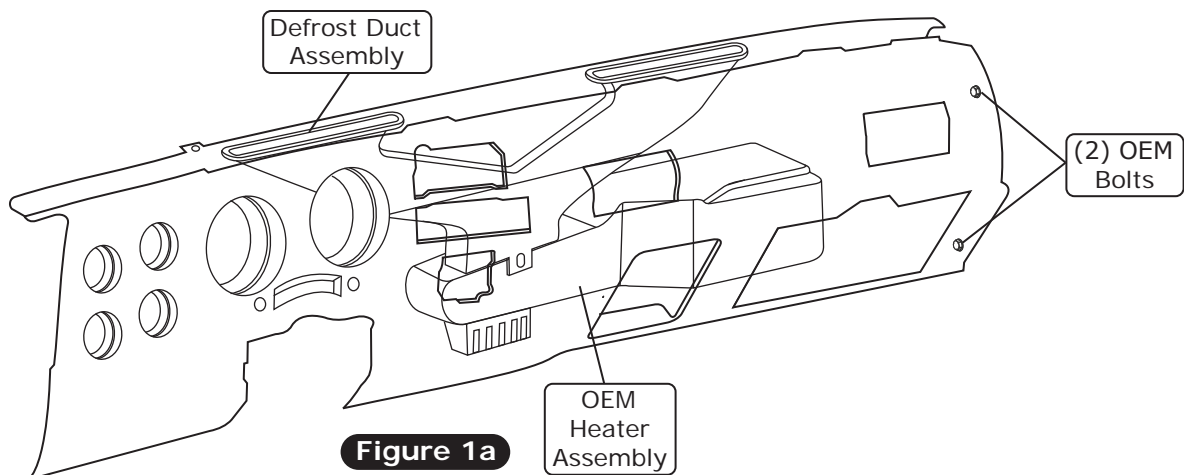

Figure 1a
8. Remove the OEM heater assembly (discard) (See Figure 1a, below).
9. Remove the defrost duct assembly (discard) (See Figure 1a, below).